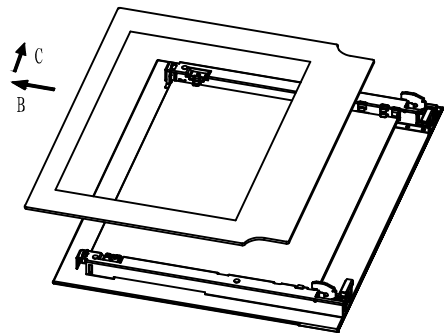

Fig.2
- Now, shutting the door slightly, you can lift it out by pulling out the hooks "A" as shown in figure 2.
2. Take out inner glass slowly, following the direction of the arrow (B) then (C) (Fig.2)